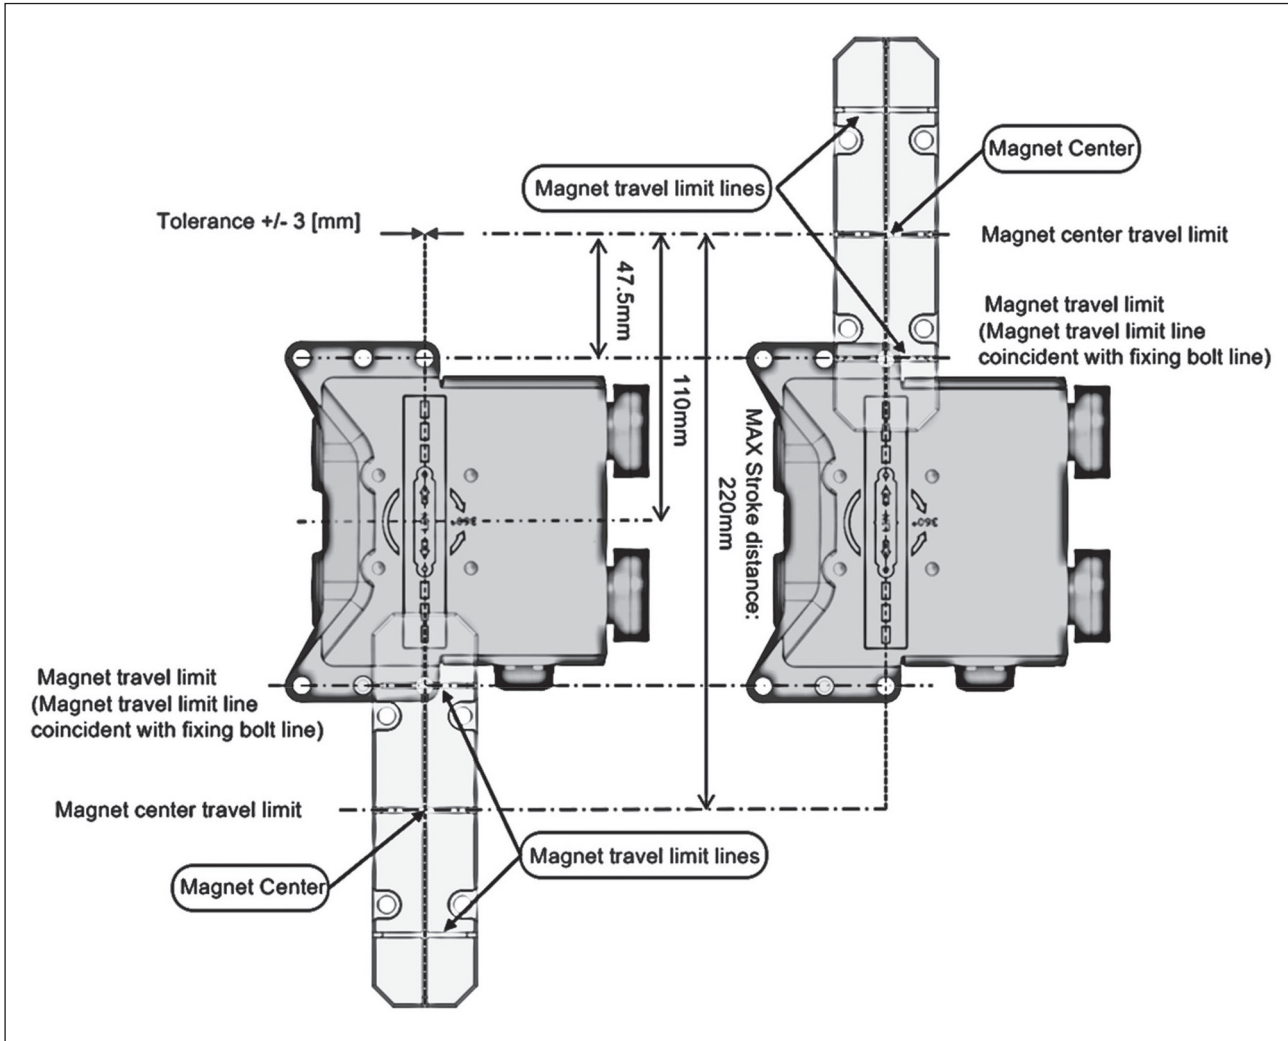

Fig. 26.
- The distance between the magnet and the device bottom shall be 15 +/- 5 mm tolerance (10...20 mm). See fig 26.